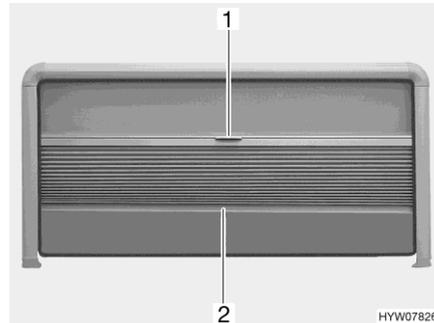

Fig. 63 Roman shade and insect screen (hinged window)
*Closing:* ■ Hold the Roman shade in the centre of the bottom rod (Fig. 63,2) and carefully draw it downwards.
*Opening:* ■ Hold the bottom rod (Fig. 63,2) of the Roman shade in the centre and carefully slide the Roman shade upwards.
*Closing:* ■ Pull insect screen at the handle (Fig. 63,1) downwards.
*Opening:* ■ Move insect screen at the handle (Fig. 63,1) fully upwards.